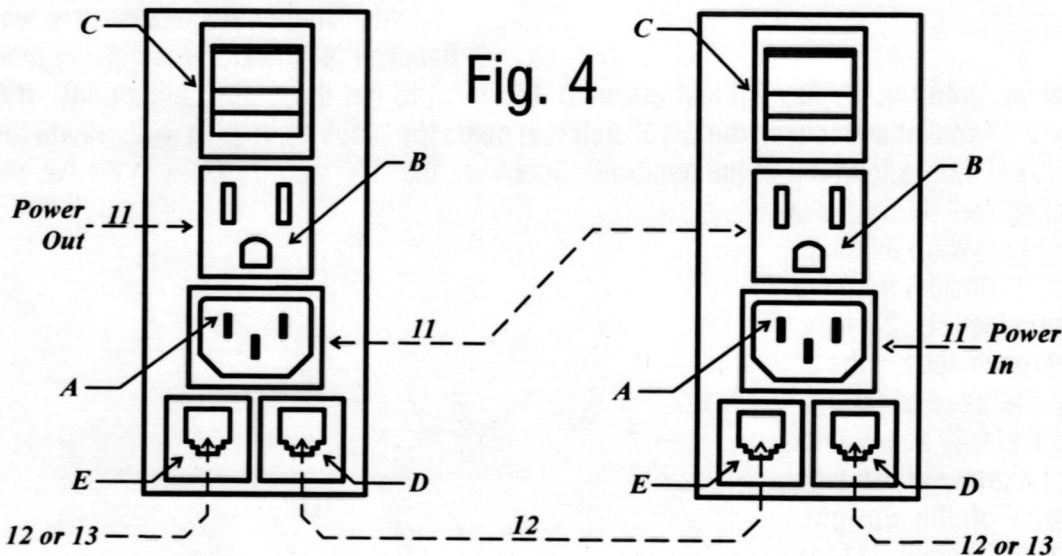

Fig. 4
The *ClimbMax* has both a power in (A) and power out (B) connector (see Fig. 4). This allows you to string power from one *ClimbMax* to the next and eliminates the need for extension cords. One end of the power cord (15) plugs in to the power in (A) and the other end plugs into either the power out (B) of the next *ClimbMax* or the wall socket. (C) is the power switch.
The *ClimbMax* has a built-in serial port designed to interface to other *ClimbMax*s or a host computer. A maximum of eight *ClimbMax*s can be linked together and races among 2 to 8 *ClimbMax*s are possible with up to four different races occurring simultaneously. If you have more than one *ClimbMax*, plug in a telephone type cable (13) from the Out Jack (D) of each climber to the In Jack (E) of the next *ClimbMax* and continue until all *ClimbMax*s are connected (see Fig. 4). Then terminate the first In Jack (E) and the last Out Jack (D) with the plugs (14) provided to complete the communication ring.